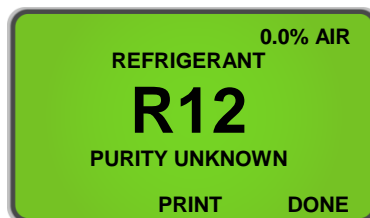

Figure 14
The *YELLOW JACKET 68940* has the ability to identify the following refrigerants: **R12, R1234yf, R408A, R409A, R417A, R421A, R421B, R422A, R422B, R422C, R427A** and **Hydrocarbons (HC)**. All identified refrigerants will display with "Purity Unknown" as the analyzer cannot yield additional information regarding the composition **(Figure 14)**. Refer to **2.12 Channel Data Modelling** for additional information regarding identified Refrigerants.